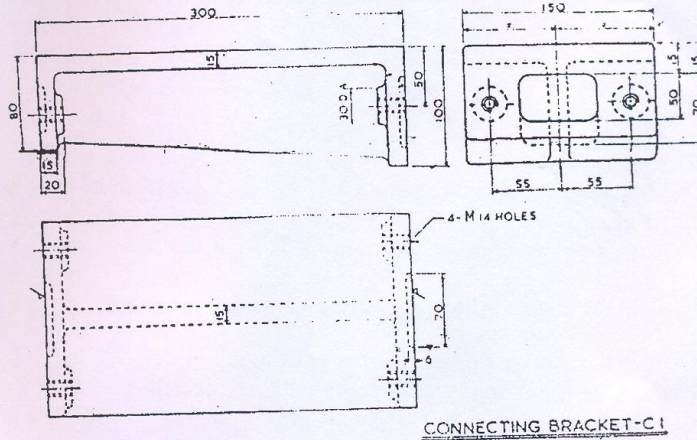

Fig. Q5
c. A cast iron connecting bracket is shown in Fig. Q5 (b). Identify the most suitable parting line and introduce design modifications to obviate the use of sand cores. (12 Marks)